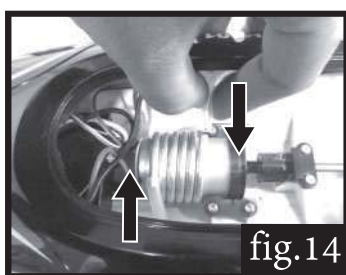

fig.14
14. Connect the plastic water hose to the cooling tube on the motor, fig. 14.